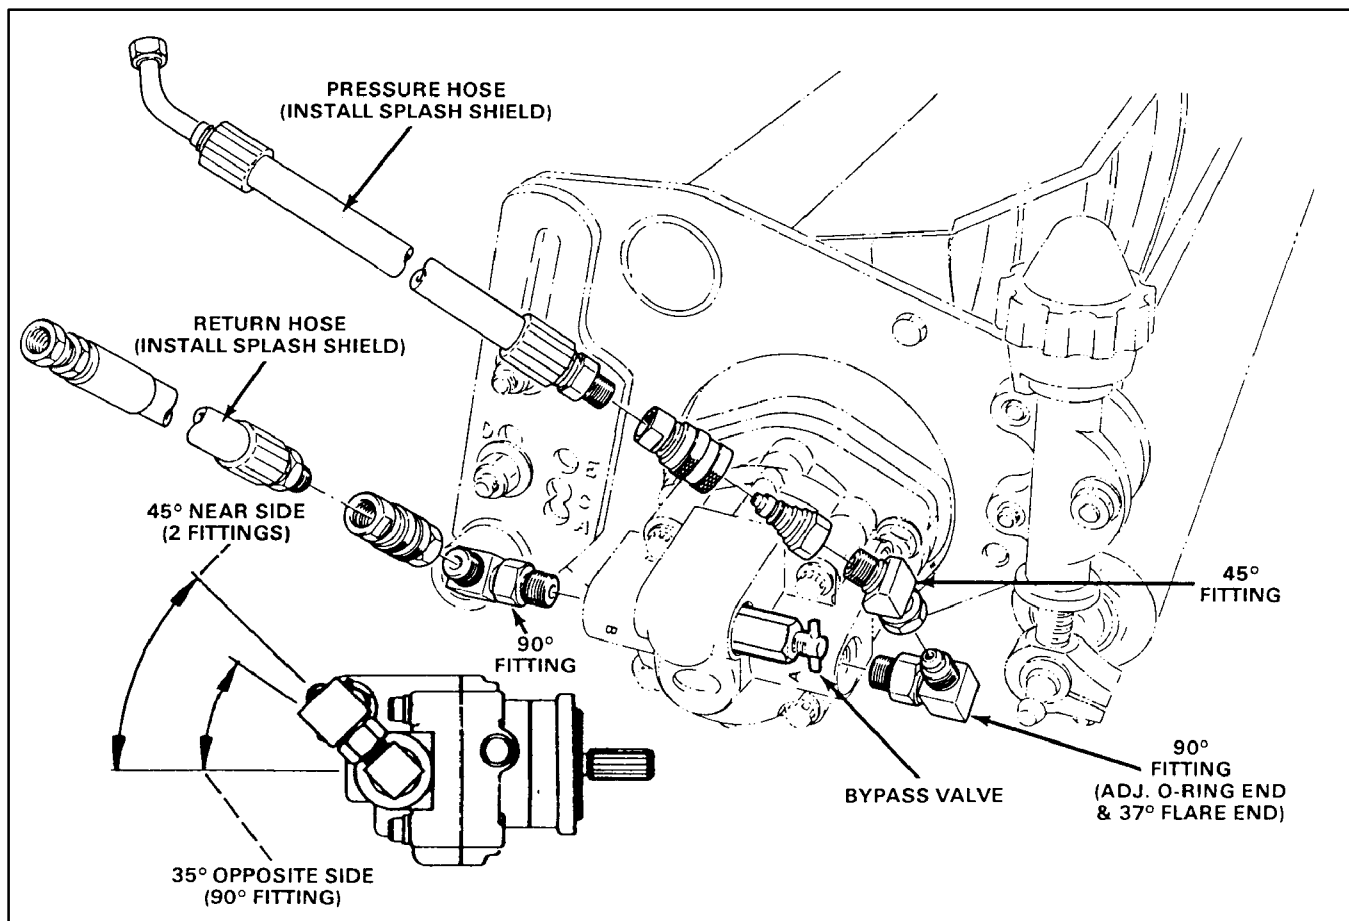

Figure 2
4. Identify correct fitting locations and position for each cutting unit by referring to Figures 2, 3 and 4.